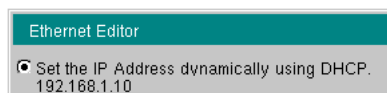

Figure 2-7. IP Address Display in Ethernet Editor Dialog
- b. Press the **System Options** soft key followed by **Ethernet Config** soft key. The Ethernet Editor window displays the IP address, as shown in Figure 2-7. Note the IP address so that you can enter in MST.